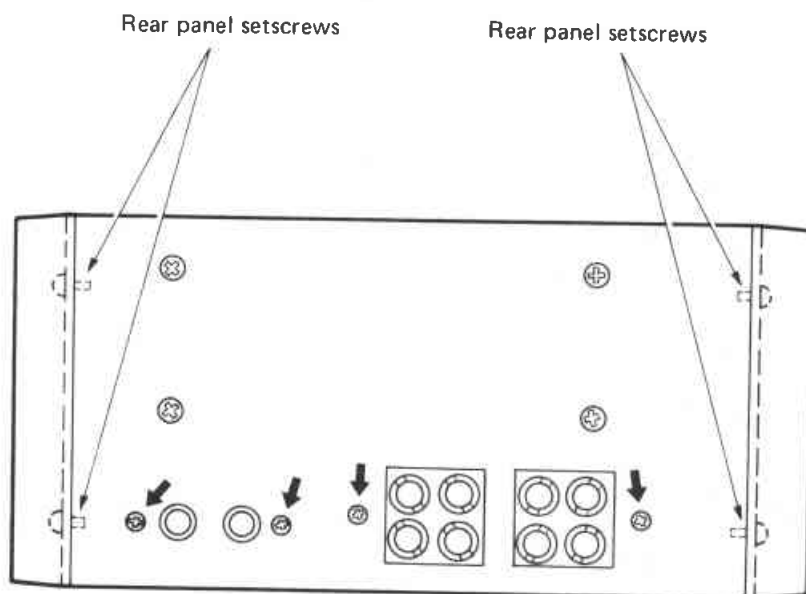

Fig. 1
- 2) Remove the four screws of the speaker terminals and input pin jacks on the rear panel. (Refer to Fig. 1)
- 3) Remove the two screws at the left and the right of the rear panel. (Refer to Fig. 1)